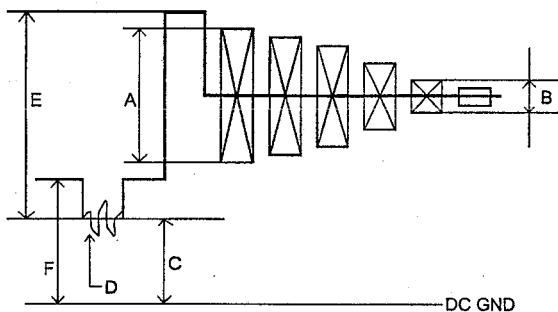

Fig.2
2. With the multi-burst signal, measure the waveform of TP502 by oscilloscope.(Fig.2)